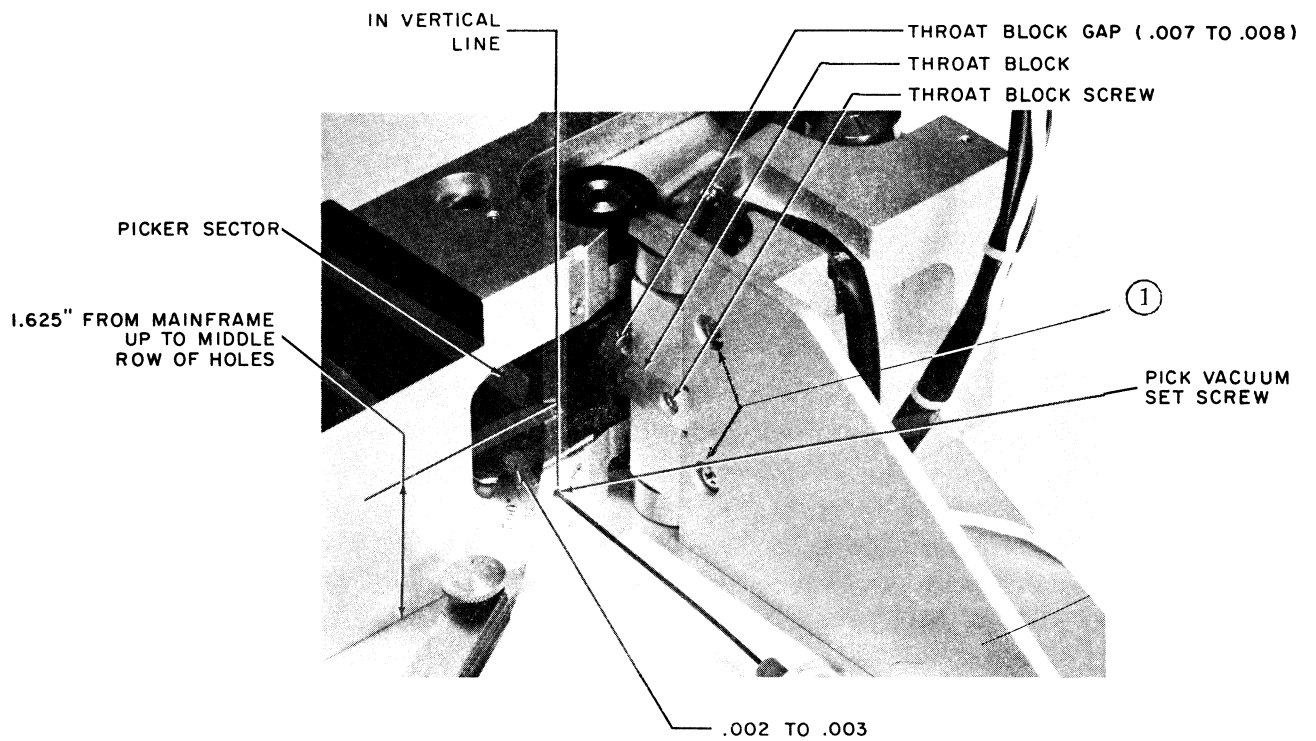

Figure 6-9. Picker Sector Adjustment, Rear View
- a. Check picker sector height adjustment . Using a 6" steel rule , measure distance from top of mainframe to center of middle row of holes in picker sector . This should be exactly 1-5/8" , figure 6-9 .
- f. Using a .050 Allen wrench , LOOSEN vacuum adapter plate set screw , figure 6-9 .
- m. Using a small Phillips screwdriver, LOOSEN screw holding throat block, figure 6-9.